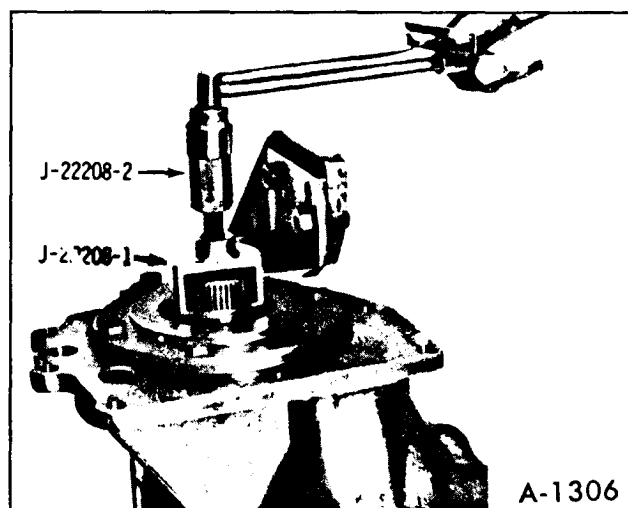

Figure 53—Checking Pinion And Side Bearing Pre-Load
5. Release tension on spreader tool install side bearing caps, and torque cap bolts to 65 ft. lbs., then check pre-load as shown in Figure 53. Pre-load should be 10 to 15 in. lbs. for new bearings, 5 to 7 in. lbs. for old bearings over the pinion bearing pre-load.